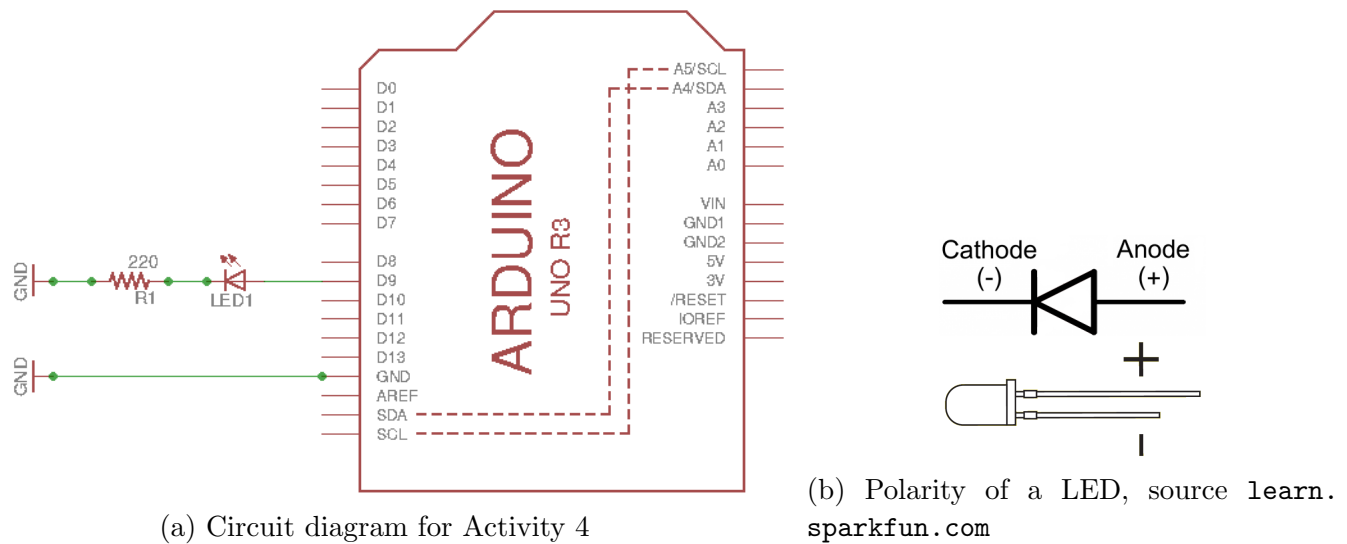

Figure 5.1: Activity 4 circuit
- Assemble the circuit in Fig. 5.1. Connect the Arduino to the workstation via the USB cable.